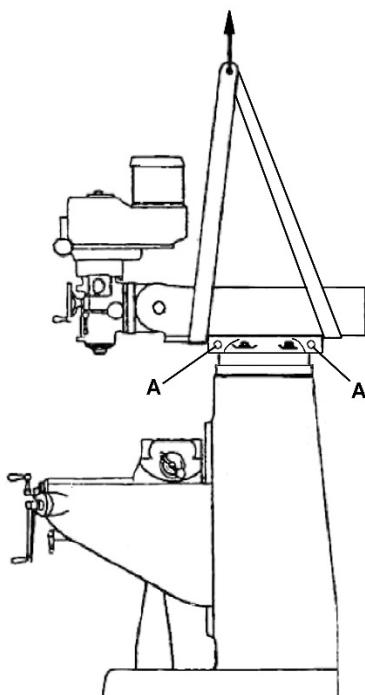

Figure 7-2: alternate lift - sling location
3. Check tightness of lock hex nuts on ram (A, Figure 7-2) to be **certain ram is tightly locked.**
An alternative method for lifting the mill is with a sling. See Figure 7-2 for proper position of sling under ram. Note position of ram and that table has been moved against column. Tighten ram locking nuts (A, Figure 7-2) before lifting.